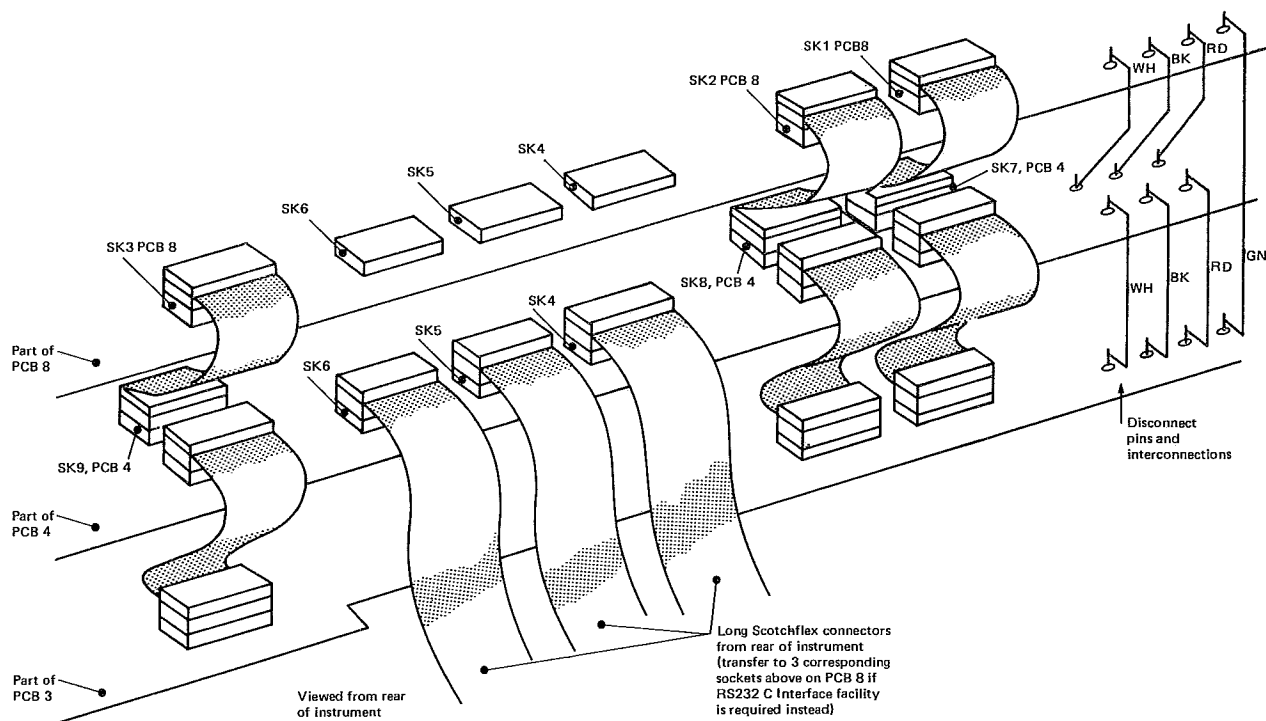

Fig. 6 Connecting PCB 8
14. Fit the 4 disconnect leads to pcb 3 and 4 (Fig. 6); red (RD), black (BK) and white (WH) leads to the (inner) + 5VA, 0V and + 5VB disconnect pins on pcb 4 and the green (GN) lead to the 50Hz disconnect pin on pcb 3.
16. Fit the 3 short Scotchflex connectors (from pcb 4) to sockets 1, 2 and 3 on pcb 8 (Fig. 6).
17. Connect all disconnect leads as shown in Fig. 6.
Note The earlier connection of the 3 long Scotchflex connectors to pcb 4 (instruction 9) provides the Parallel Interface capability. If it is desired to effect the RS232C Interface capability instead, then the 3 long Scotchflex connectors should be transferred to the corresponding sockets on pcb 8 (Fig. 6). This configuration however, causes pcb 4 to become redundant.